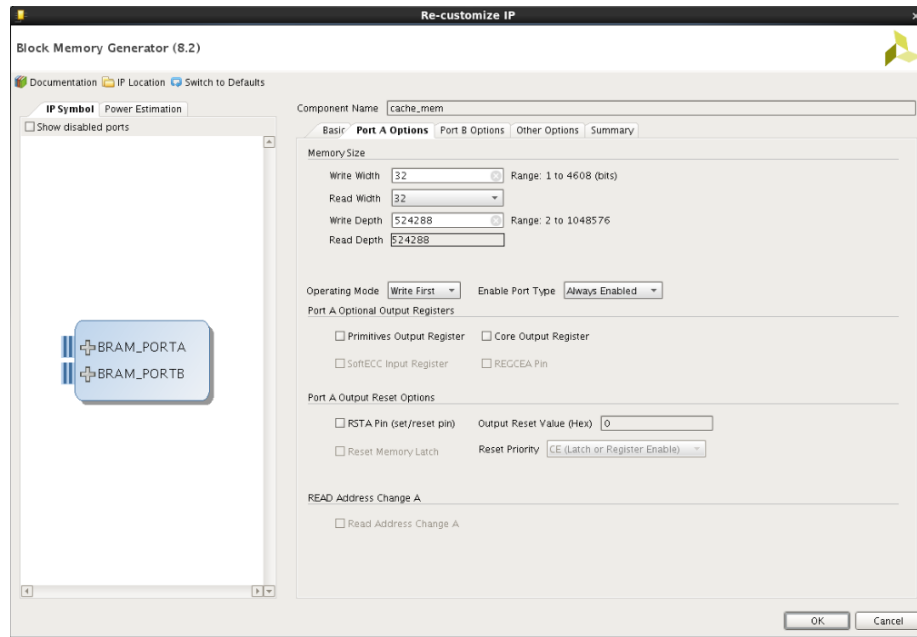

Figure 13: Block Memory Generator Port A Options
- Set the *Port A Options* according to Figure 13: